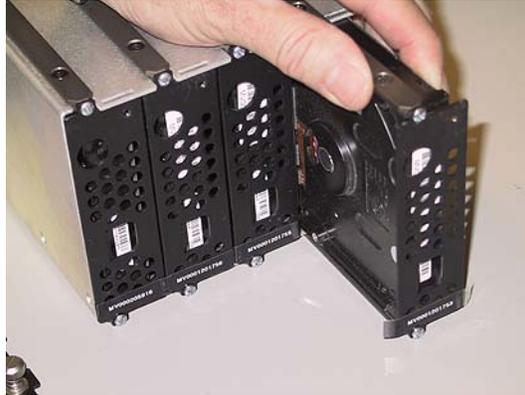

Figure 3-60
- 4) Gently grasp the drive in question and pull it out of the magazine (Figure 3-60).
Note: In order to easily identify these disks, MaxVision serial numbers are affixed to the bottom edge (the small white strips shown toward the bottom of the drives in Figure 3-60). Recording the positions and serial numbers of your disks for each MaxPac is advisable.